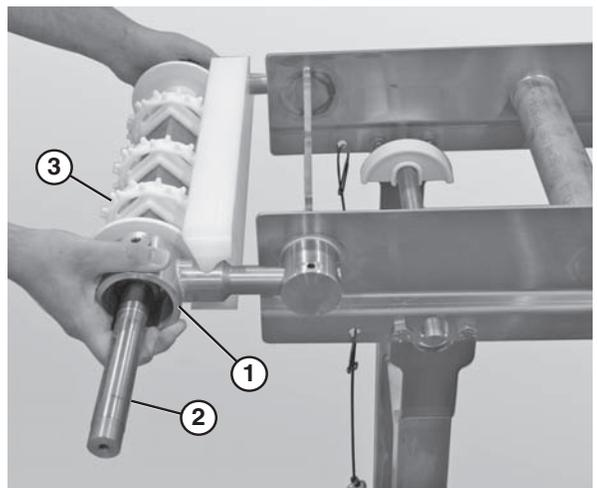

Figure 69
6. Slide the drive tail assembly out of the take up blocks (**Figure 69**).
7. Slide the motor support bracket (**Figure 69, item 1**) off the drive spindle (**Figure 69, item 2**).
8. Remove the sprockets (**Figure 69, item 3**).